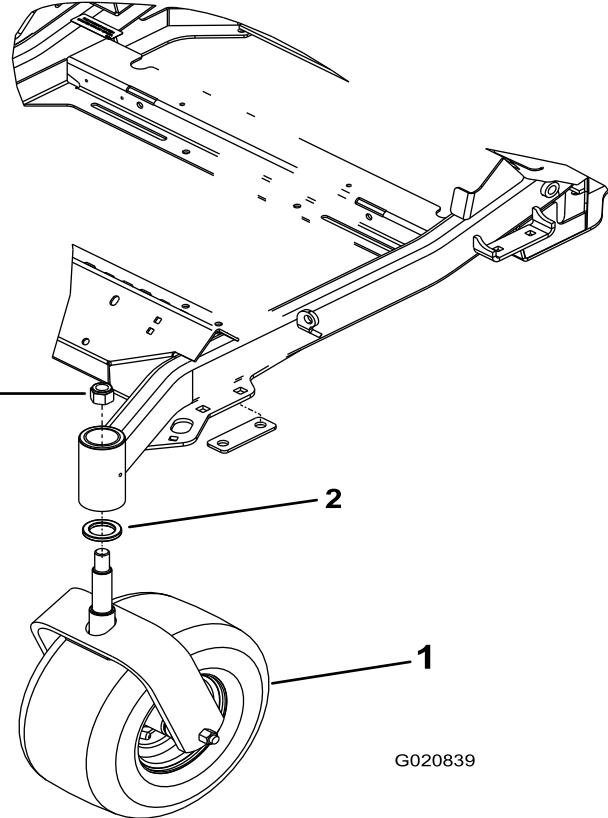

Figure 4
1. Insert the grease seal into the frame (Figure 4).
2. Assemble the caster wheel assembly into the frame and install the locknut (3/4 inch) as shown in Figure 4 .